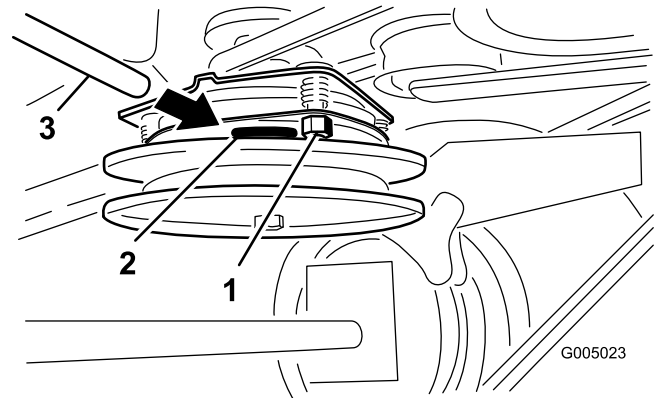

Figure 41
2. Tighten the lock nuts until there is slight binding on the feeler gauge but it can be moved easily within the air gap (Figure 41).